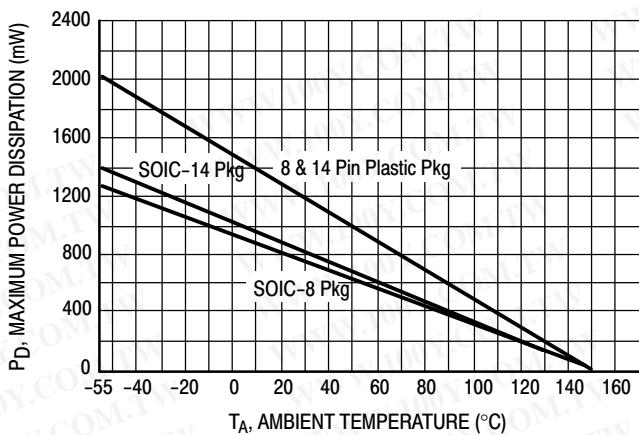

**Figure 2. Power Supply Configurations**
2. Power dissipation must be considered to ensure maximum junction temperature (TJ) is not exceeded (see Figure 2).